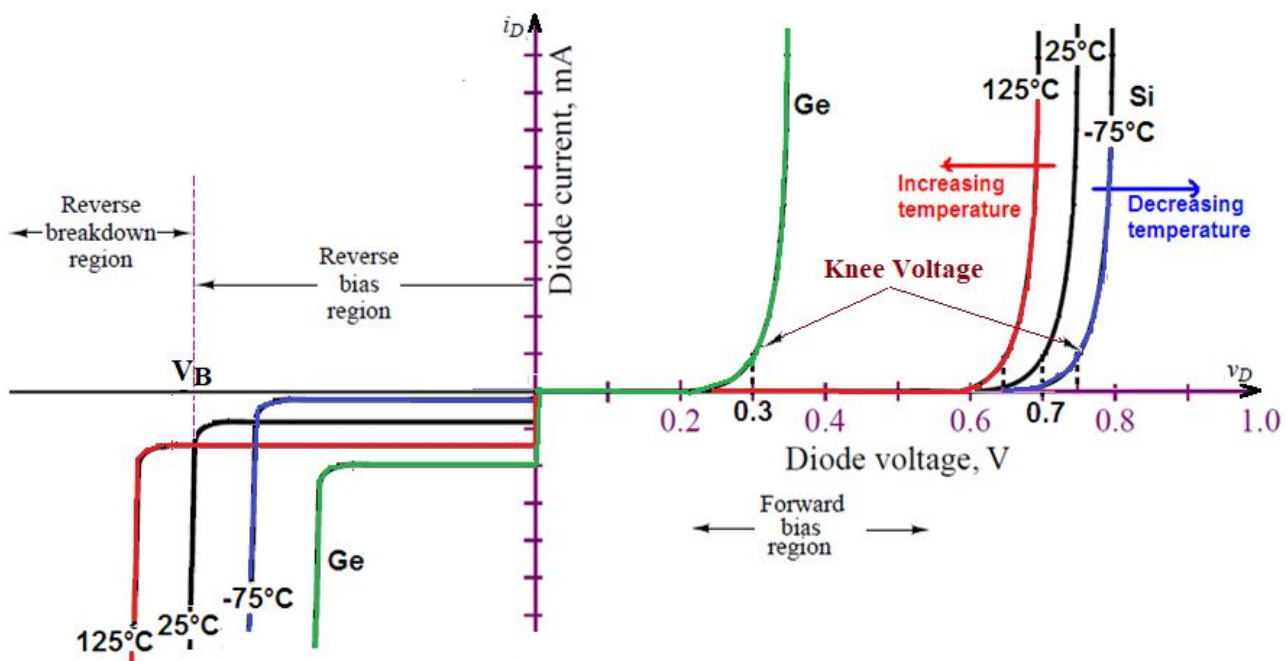

Fig.2.2: I-V Diode characteristics
The forward and reverse current-voltage (IV) characteristics of a diode are generally compared on a single characteristic curve. (see Fig.2.2)